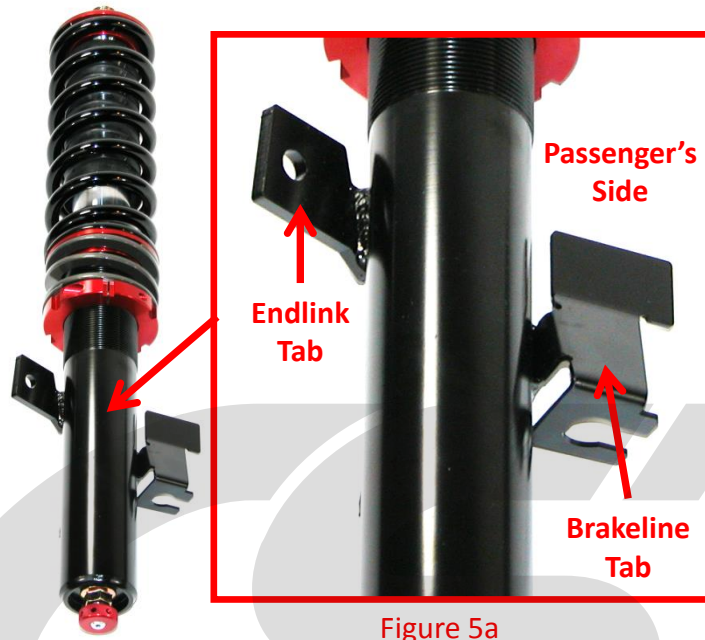

Figure 5a
a) Install the front CorkSport Coilover assembly into the car. Push it up from the bottom being careful not to hit the fender. Verify Driver's side and Passenger's side. Figure 5a shows the passenger's side front coilover.